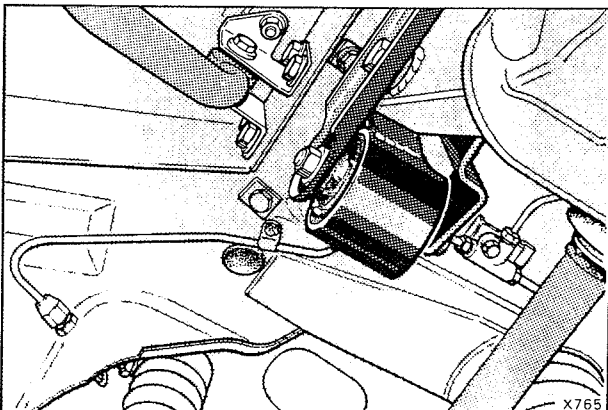

Fig. H8m Final drive crossmember mount
Final drive crossmember mounts - To remove (see Fig. H8m)
8. To remove the left-hand mount (see Fig. H8m), remove the two mounting plates connecting the final drive crossmember to the rubber mount.